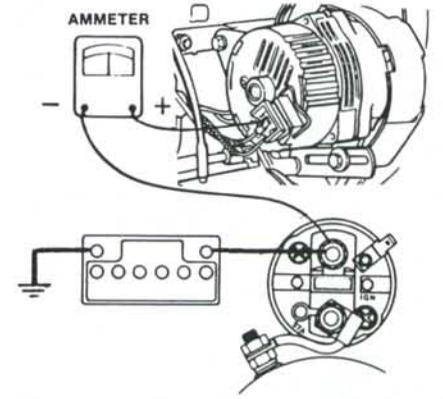

Fig. 127—View showing proper installation of ammeter for performing amperage output test. Refer to paragraph 161.
**161. ALTERNATOR AMPERAGE OUTPUT TEST.** Disconnect brown wires from alternator and connect ammeter in alternator output circuit as shown in Fig. 127. Start and run engine at full rated speed. Turn on all lights and accessories, then check ammeter reading.